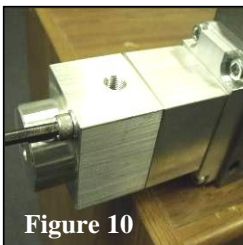

Figure 10
8. Using 5mm hex-head driver tighten Cylinder Housing Cap Screws as shown in Figure 10. Torque to 48 in-lbs.